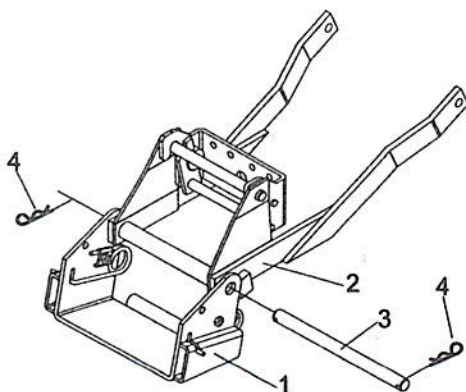

Figure 7
- l) Install the front pivot support (fig. 7, item 1) to the frame (item 2) using the pin (item 3) and secure in place with hair pin 3 mm. (item 4).